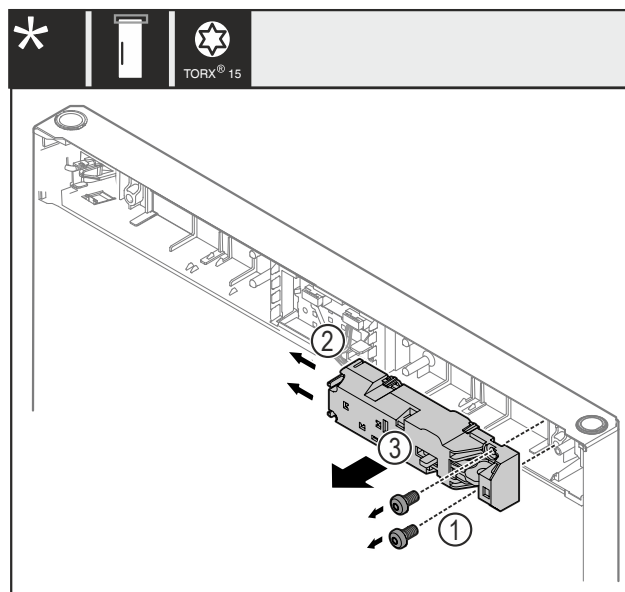

Fig. 20
- Remove the screws Fig. 20 (1).
- Push the latching tabs Fig. 20 (2) to the side and remove the remote lock Fig. 20 (3).